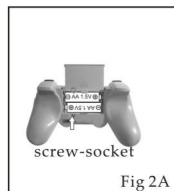

Fig 2A
1. Open the cover of battery case locates in the back of controller, inserts 2 pcs of 1.5V AA batteries into the battery case, and then screw the cover (Fig 2A).